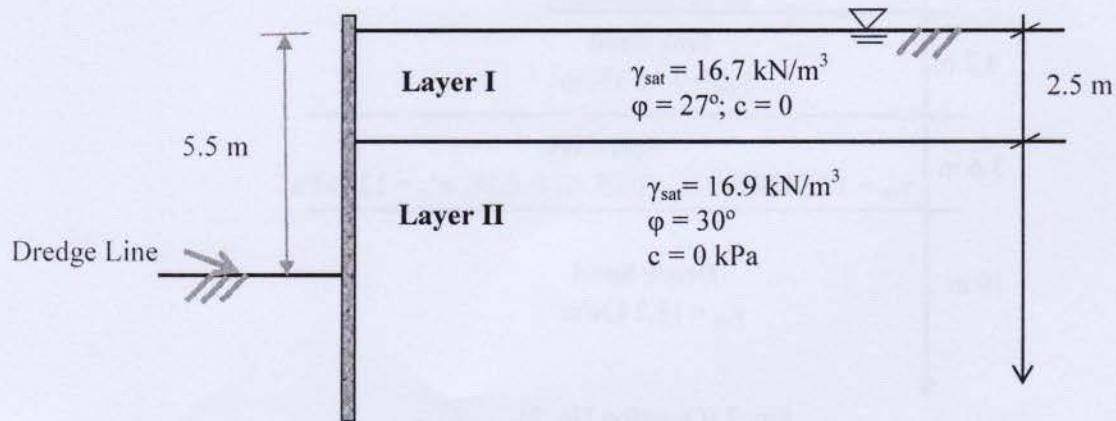

Fig.1 (Question No. 1)
- (a) Compute the magnitude of lateral force (per unit length of the wall) acting on the earth retaining structure in active condition (Fig. 1). Consider up to the dredge line. 12